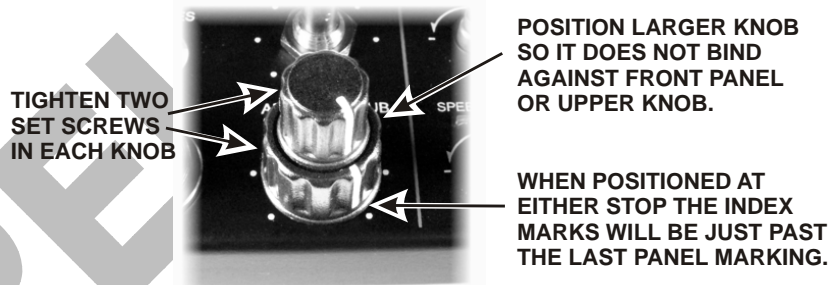

Figure 42. Mounting Concentric Knobs.
Place the larger of a pair of concentric knobs over the AF/SUB control as follows (See Figure 42):
- Place the smaller knob over the shaft, align its index line as shown in Figure 42 and tighten one set screw with a 0.05" Allen wrench.